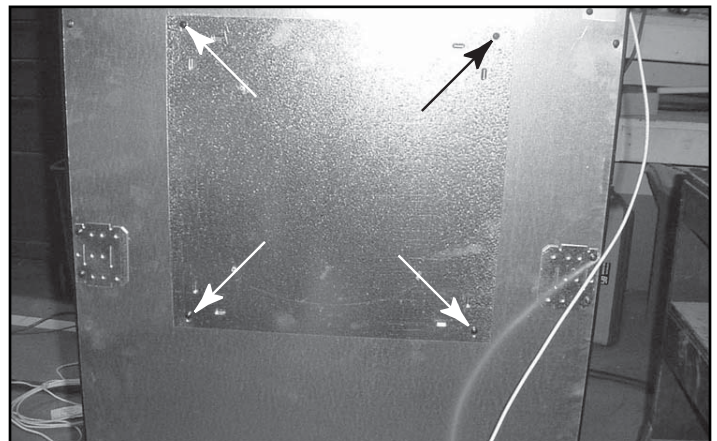
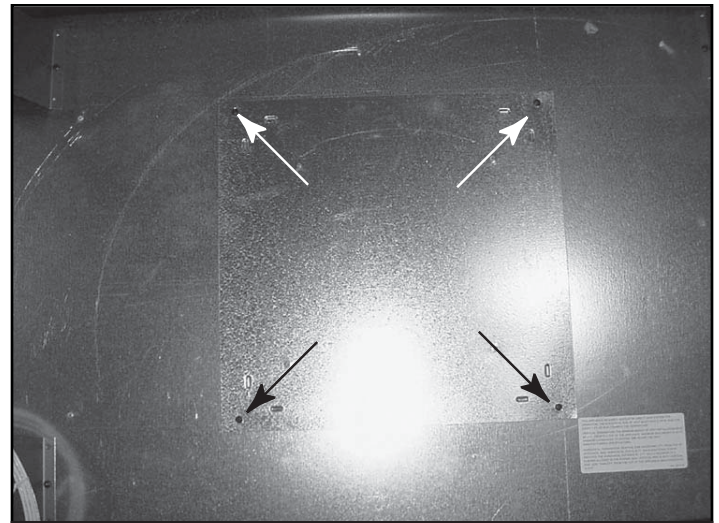

Figure 7.4 Outer Shell Cover - Remove Four Screws
Figure 7.12 Attach Outer Shell Cover
- Remove four screws holding outer shell cover. See Figure 7.4. Remove outer shell cover and set aside. (Cover has insulation attached.)
- Locate outer shell cover removed in the fourth step (Figure 7.4). Place the cover on top of appliance. Replace four screws to hold plate in place. See figure 7.12. (Cover has insulation attached.)